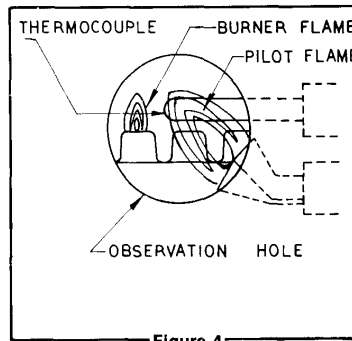
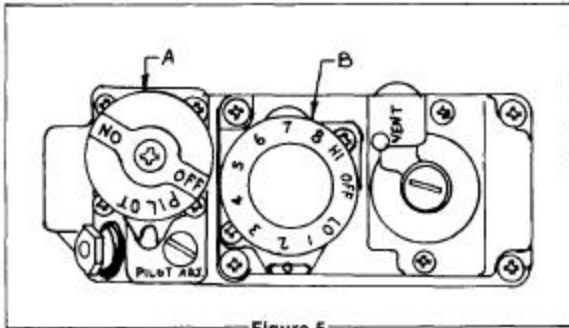

Figure 4
Figure 5
The pilot should be a sharp blue flame and be adjusted so it just engulfs the tip of the thermocouple. (See Figure 4.) The pilot adjustment screw is located under a cover screw on the valve. The valve is clearly marked "Pilot Adjustment". (See Figure 5.)
- 1-Push in on the green knob (A, Figure 5) of the automatic safety valve, turn to "Off" and wait 5 minutes. Be sure this step is not omitted.
- 2-Depress the green knob (A, Figure 5) and turn to "Pilot" position. Release knob.
- 3-Remove observation hole cover and hold lighted match to pilot burner tip while, at the same time, pushing in on the green knob (A, Figure 5) of the automatic safety valve. An open flame must be at pilot burner as long as the knob is depressed.
- 2-Let pilot burn for five (5) minutes to allow warm-up.
- 3-Turn thermostat (B, Figure 5) to "Low" setting.
- 4-Turn green knob (A, Figure 5) to "On".
- 2-Turn knob (A, Figure 5) to "Pilot" position, push in and turn to "Off" position.
- 1-Improperly adjusted flame –check to be sure pilot flame is a sharp blue color and of proper size. Flame should just engulf the tip of the thermocouple. (See Figure 4 and instructions under Pilot Adjustment.)